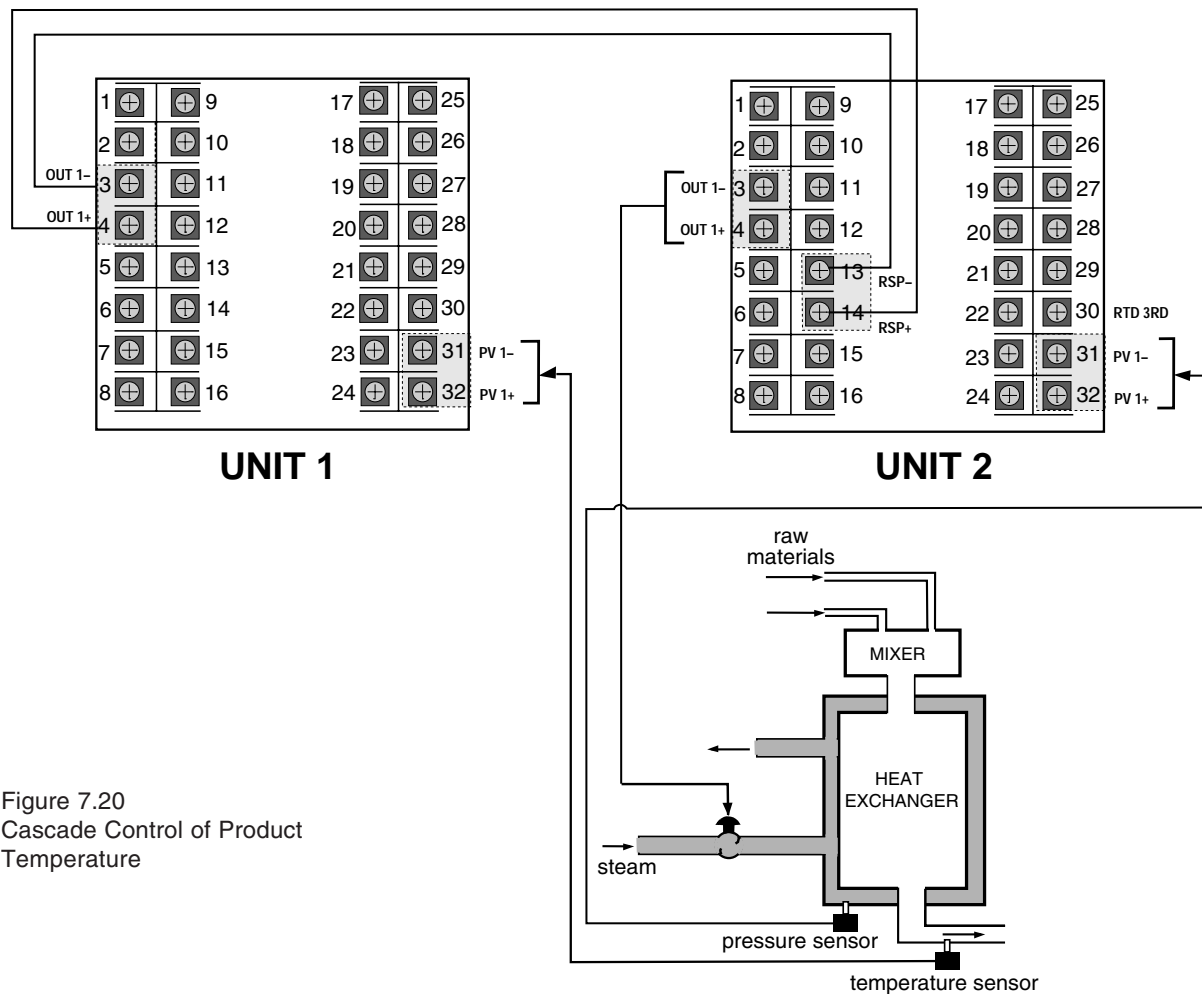

Figure 7.20
Cascade control involves installing one feedback loop within another, as in Figure 7.20. This second loop, based on steam pressure, is called the inner or secondary feedback loop. The outer or primary feedback loop is based on the temperature of the liquid in the heat exchanger. However, instead of directly positioning the steam valve, the output of the primary 535 controller is now used to adjust the setpoint of the secondary 535 controller, which then positions the valve.
The solution to the problem is illustrated in Figure 7.20. Have the PID controller position the steam valve, but add a sensor by means of another 535 controller
- d. Wire the control output of Unit #1 to the remote setpoint input of Unit #2 as shown in Figure 7.20.